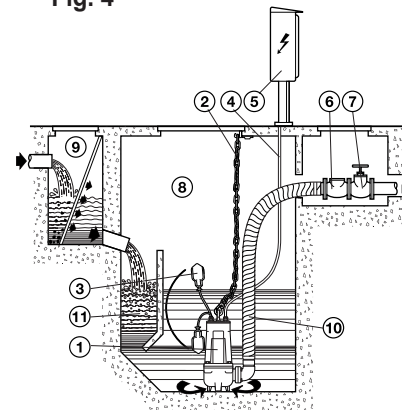

Fig. 5
5.2.1 MOBIL INSTALLATION (fig. 5)